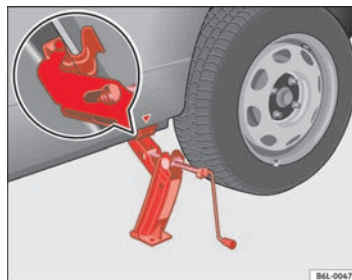

Fig. 130 Fitting the jack
- Align the jack so that the arm of the jack fits around the rib under the door sill and the movable base plate of the jack is flat on the ground ⇒ **fig. 130**.